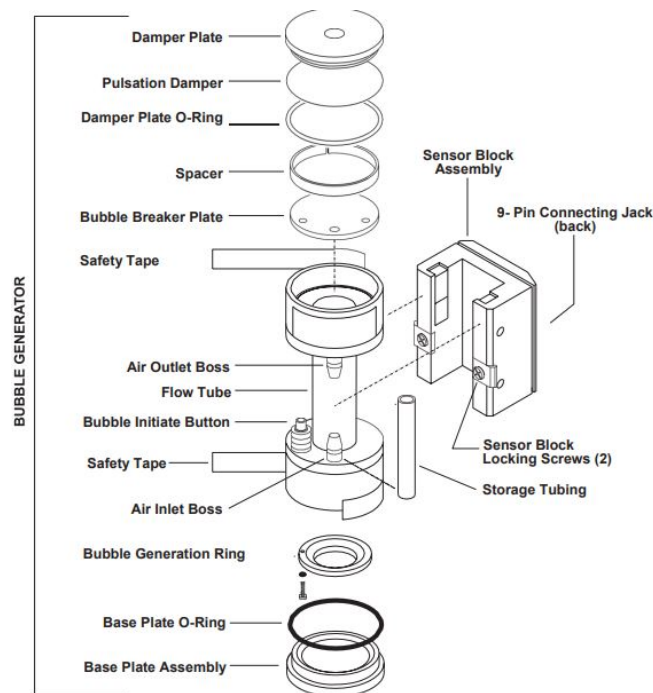
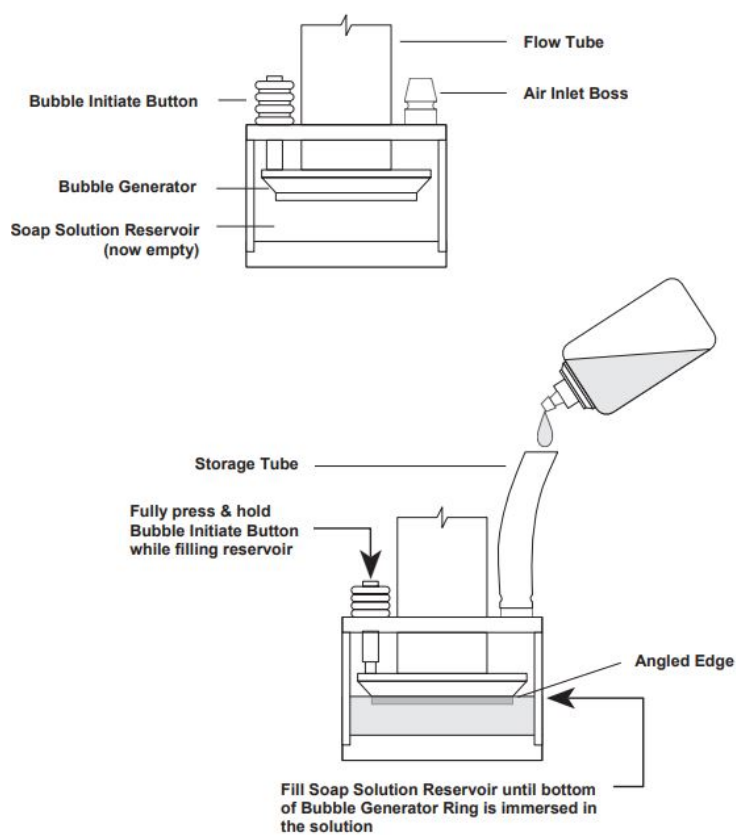

Figure 2.3
Figure 3.4
The Wet Flow Cell Assembly (refer to Figure 2.3) consists of a Bubble Generator and Sensor Block. Each Bubble Generator is sized to produce a bubble film stretched across the diameter of the flow cell tube. The bubble is carried by airflow from the bottom to the top of the tube. As the bubble moves past two infrared sensors, each sensor transmits a signal to the Control Unit indicating the passage of the bubble film. A manual push-button on the Flow Cell Assembly starts the bubble film on its travel up the tube.
When installing a Wet Cell on the Control Base, insert the 9-Pin Interface Plug from the Control Base directly into the Connecting Jack located on the back of the Wet Cell (refer to figure 2.3). Be sure to properly match up the connectors before engaging.
1. Remove the Storage Tubing from the Air Outlet Boss (see Figure 2.3) of the Flow Cell. Fill the dispenser bottle provided with Gilibrator soap solution. Using the rubber Storage Tubing as a funnel, slowly add soap solution from the dispenser (refer to Figure 3.4).